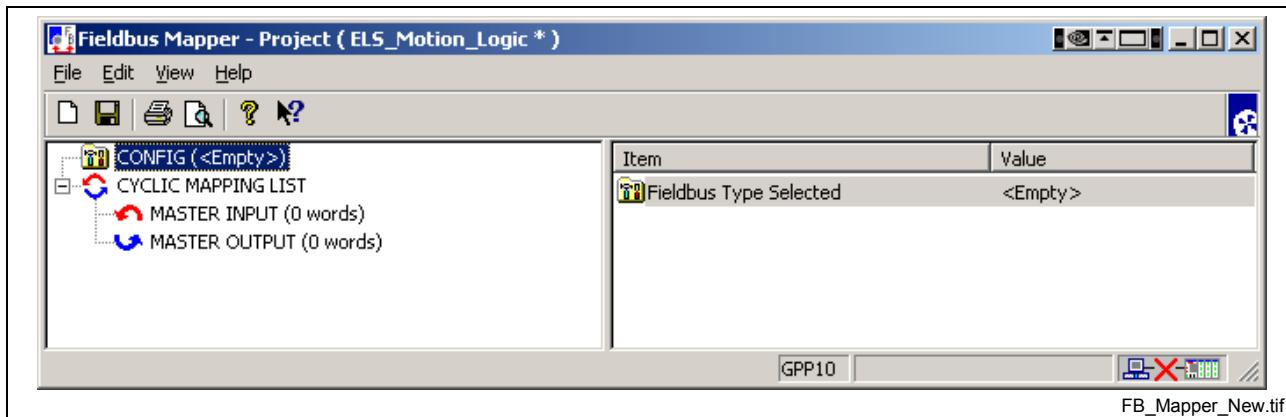

Fig. 7-97: FBMapper – Project Window
2. Select **Commission → Fieldbus Mapper**. The main Fieldbus Mapper window opens empty (refer to Fig. 7-97).